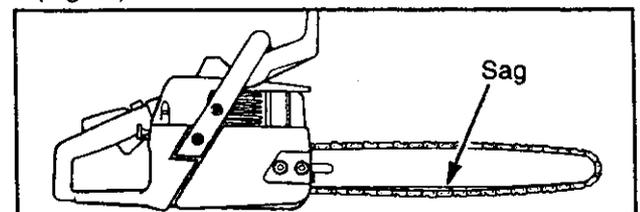

Figure 43
- If chain is too loose, it will sag below the guide bar (Fig. 43).